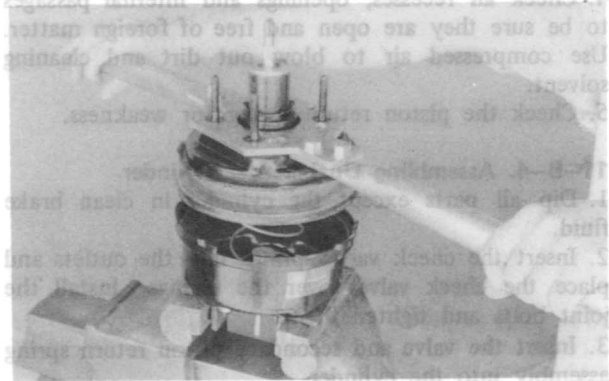

Fig. 11-19 Removing rear shell
5. Attach a suitable wrench to the studs of the rear shell as shown in Fig. 11-19. Rotate the rear shell clockwise to unlocked position.